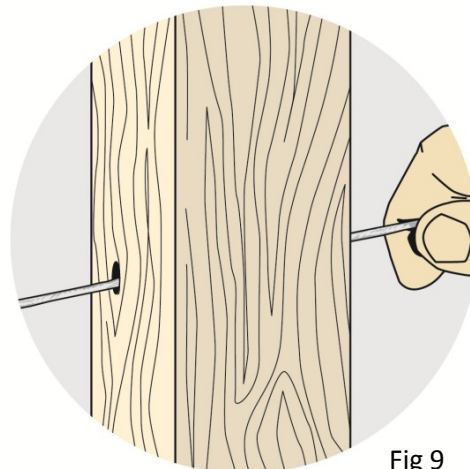

Fig 9
- b) Lace cable through intermediate posts (Fig. 9).